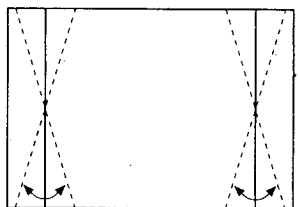

Fig. 9
- Adjust the E-W TRAPEZIUM to obtain condition as in (fig. 9).